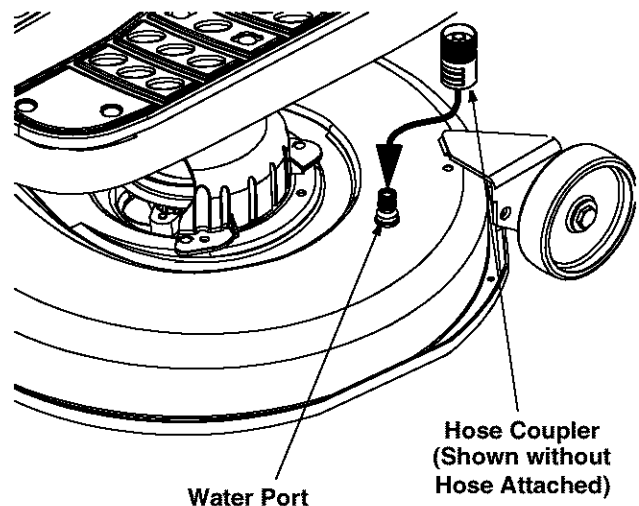

Figure 13
- Attach the hose coupler to the water port on your decks surface. See Figure 13.